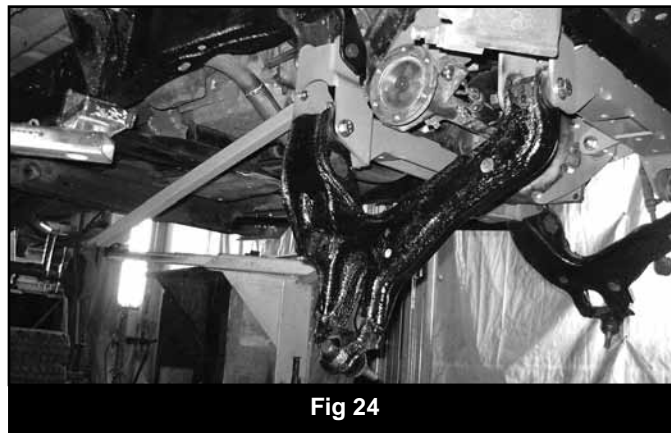

Fig 24
43. Install the OE lower control arms in the front and rear crossmembers with 5/8" x 4-1/2" bolts (front), 5/8" x 5-1/2" bolts (rear), nuts and 5/8" SAE washers (BP 621). Leave hardware loose. The heads of the bolts must be to the front of the vehicle (Fig 24).